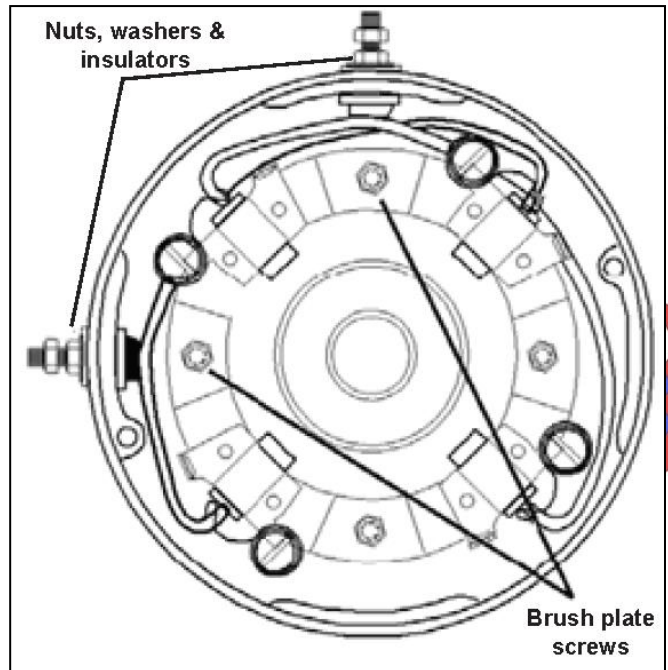
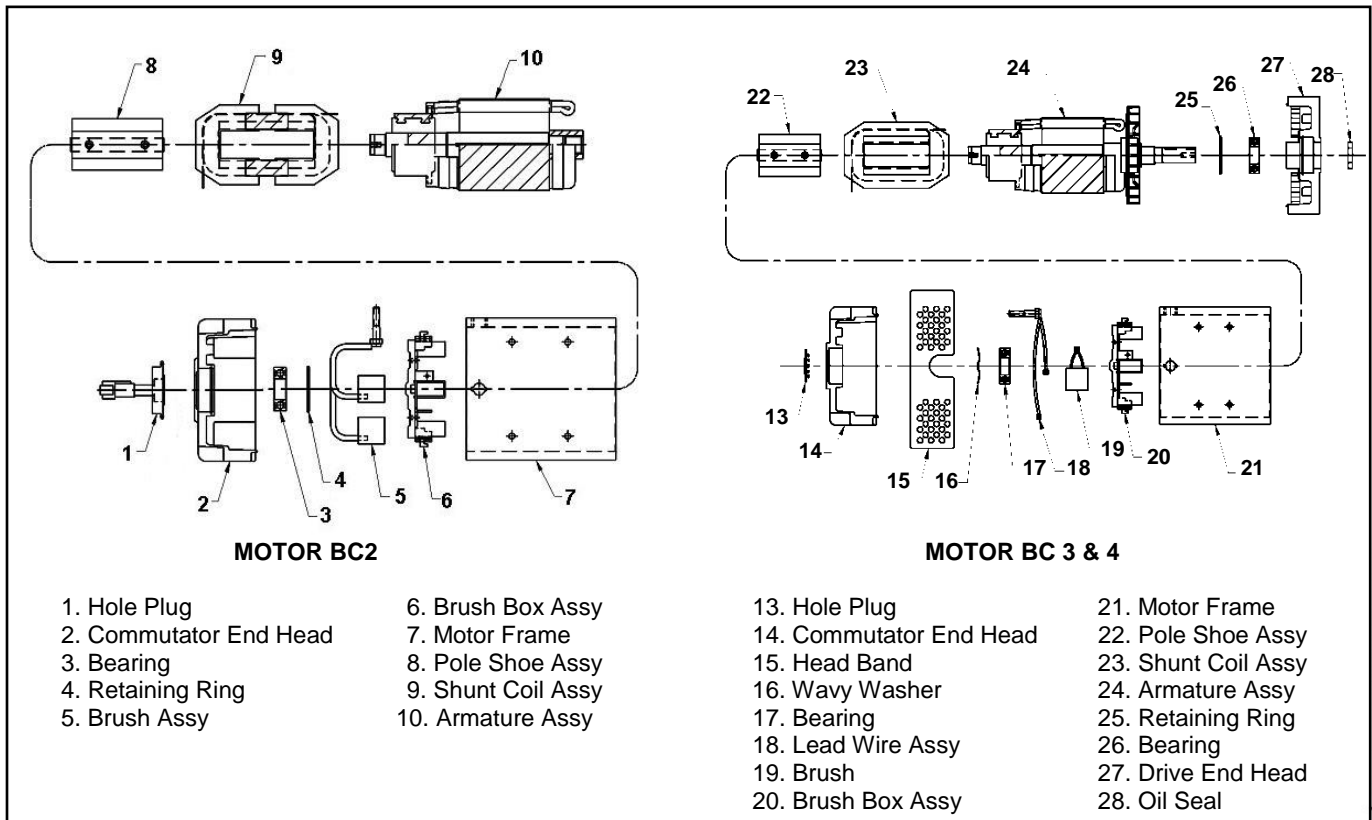
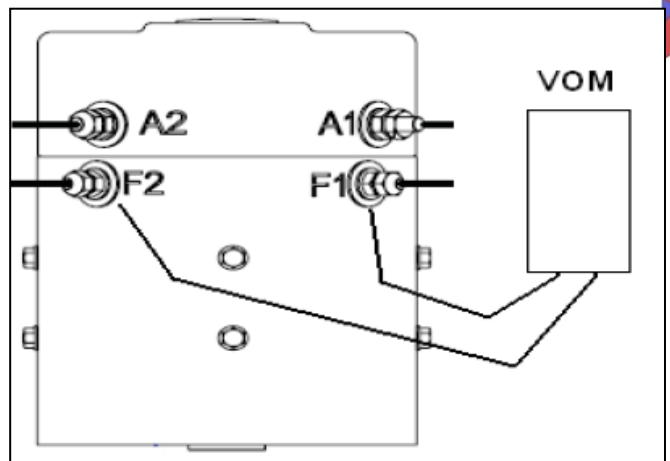

Figure 9-7
Figure 9-9
Figure 9-14
7. Remove 4 brush plate screws (Figure 9-7). Push brush terminal studs through, into the center of the head as the brush box, brushes and terminal assemblies are removed. (See exploded view Figure 9-9).
Brushes should be inspected for uneven wear and signs of overheating, such as discolored brush leads and brush springs. Check brush box for physical damage. Make sure brush holders are not loose on the brush box assembly. See Figure 9-9.
NOTICE: Do not remove the field coils (9 & 23, Figure 9-9), from the motor frame unless it is absolutely necessary for repair. Removal and re-installation could shorten field coil life.
There should be no continuity between the frame of the motor and field coil (Figure 9-9). Set the volt ohm meter (VOM) to measure Ohms. See Figure 9-14.